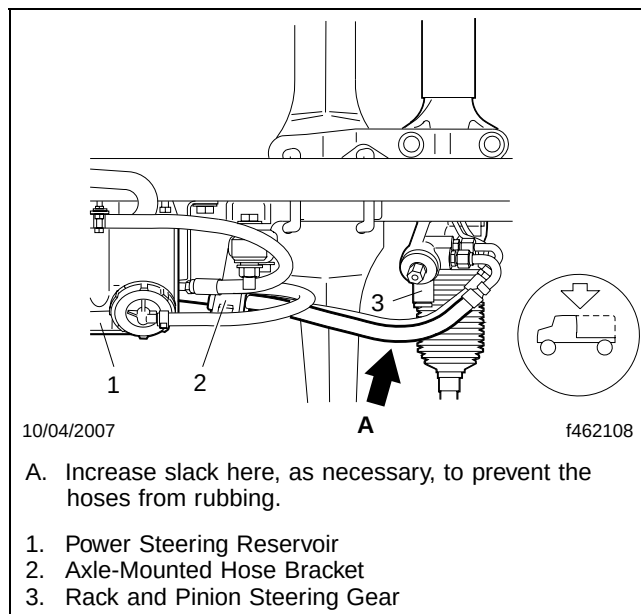
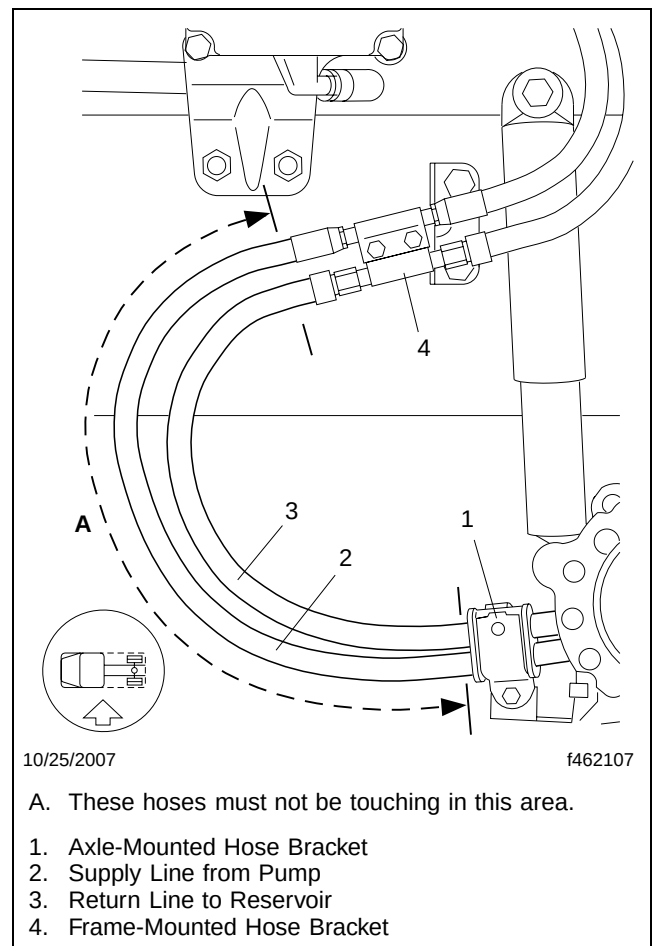

Fig. 9, View from Above
Fig. 10, Side View (fuel/water separator installed forward)
38. Include a little slack in the return line between the steering rack and the axle-mounted hose bracket (**Fig. 9**), to keep the hoses between the axle-mounted hose bracket and the frame bracket (**Fig. 10**) from rubbing together.